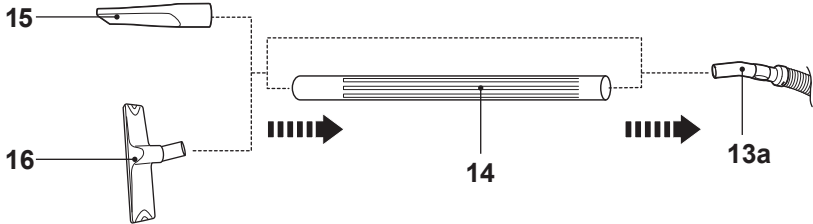

Fig. 14
- > Connect the extension tube(s) (14) and / or accessory (15, 16) onto the hose handle (13a) if required (Fig. 14).